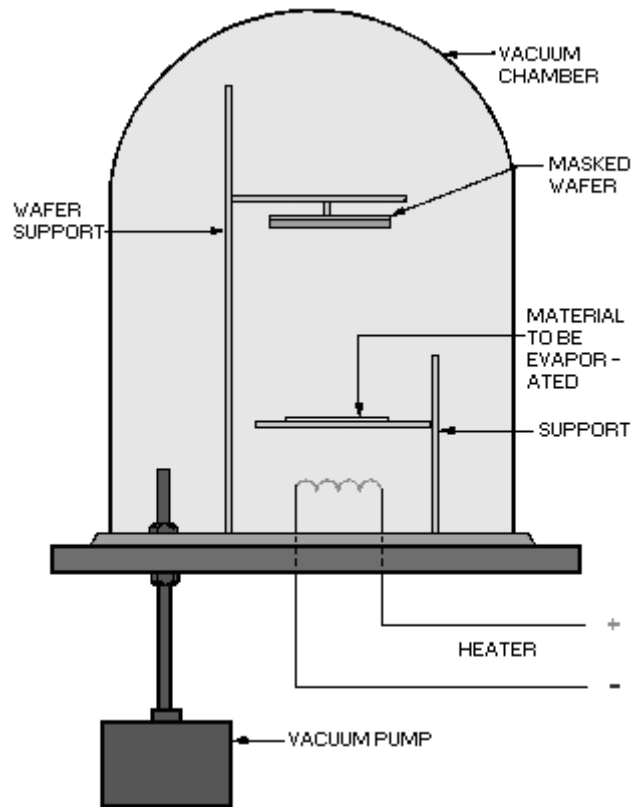

Figure 1-14.—Vacuum evaporation oven.
**VACUUM EVAPORATION.**—Vacuum evaporation is a method used to deposit many types of materials in a highly evacuated chamber in which the material is heated by electricity, as shown in figure 1-14. The material is radiated in straight lines in all directions from the source and is shadowed by any objects in its path.